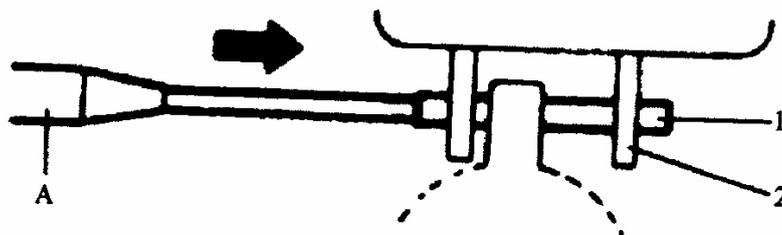

FIG.16-56 1.Spring pin 2. Pipe fitting
- (1) Remove pipe fitting from master cylinder using special tool. (FIG.16-56)